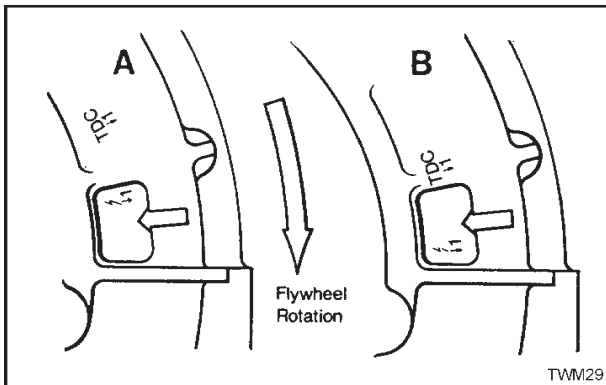

Figure 2.28.2 Flywheel Timing Marks
- Carefully lift out the delivery valve (D) taking care not to disturb the valve seat.
- Replace the delivery union body (A).
- Check the flywheel timing mark. The flywheel timing mark (FP), which can be seen through an aperture in the fanshroud, should align with the arrow on the fanshroud.
- If the flywheel mark is not correct, see 'Figure 2.28.2', the shims under the fuel pump must be adjusted, see "Timing Shims".